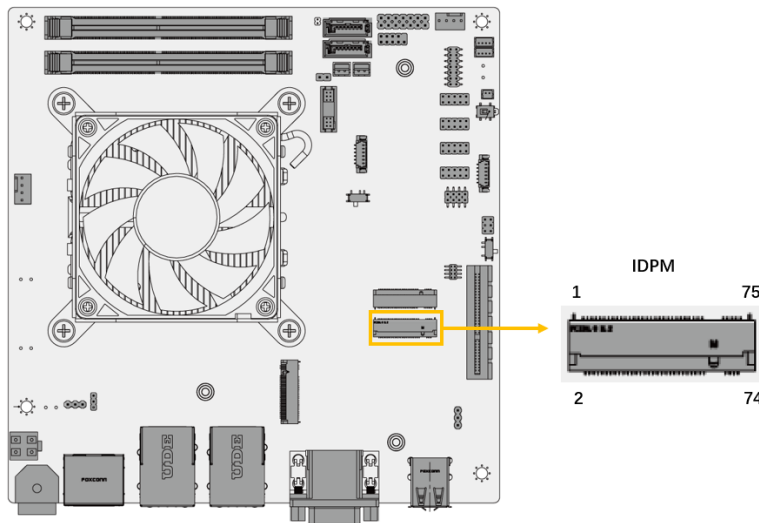

Figure 3-20: IDPM Slot Location
- CN Location:** See Figure 3-20